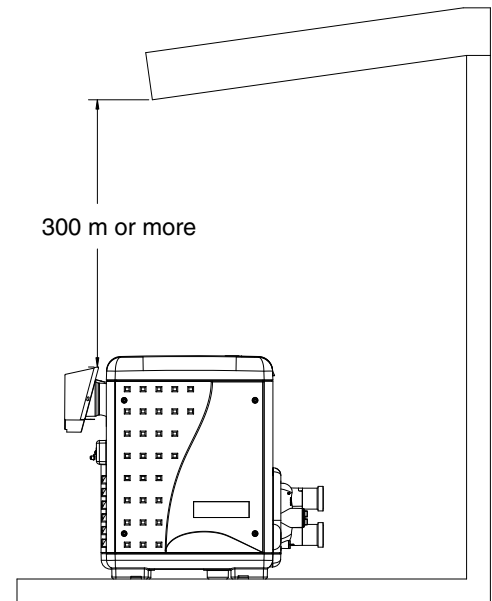

Figure 13.
a) At least 300 mm below eaves, balconies and other projections (Figure 13). \* Where eaves have openings into the house or roof space, the clearance required is 1500mm.